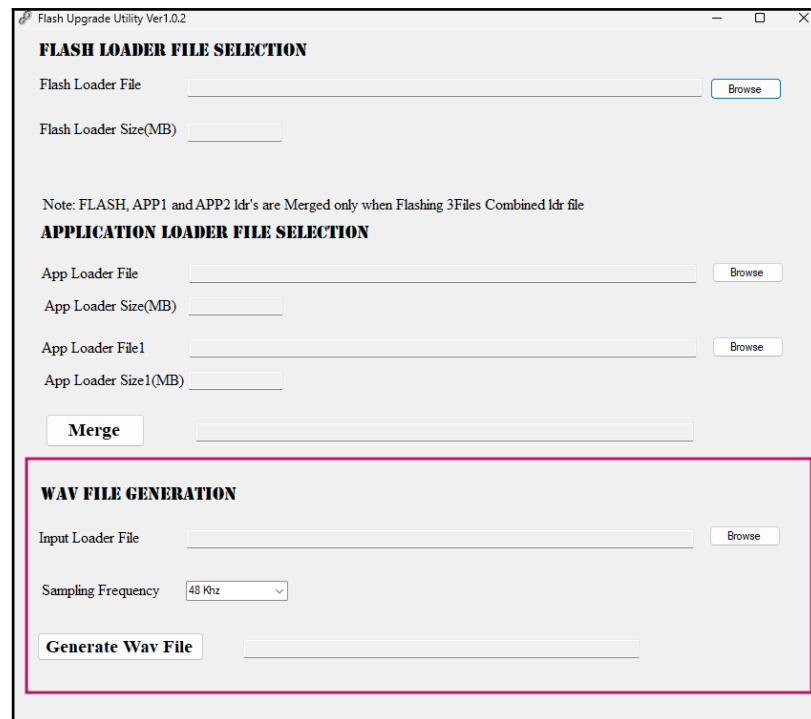

Fig5. Flash Upgrade Utility
STEP 2: In Fig 5, WAV FILE GENERATION -> Input Loader file -> click the Browse -> Select the loader (.ldr) file (from flash writer) -> set Sampling Frequency to 48 KHz -> click the Generate wav file -> The .wav file will be generated in loader (.ldr) file path.